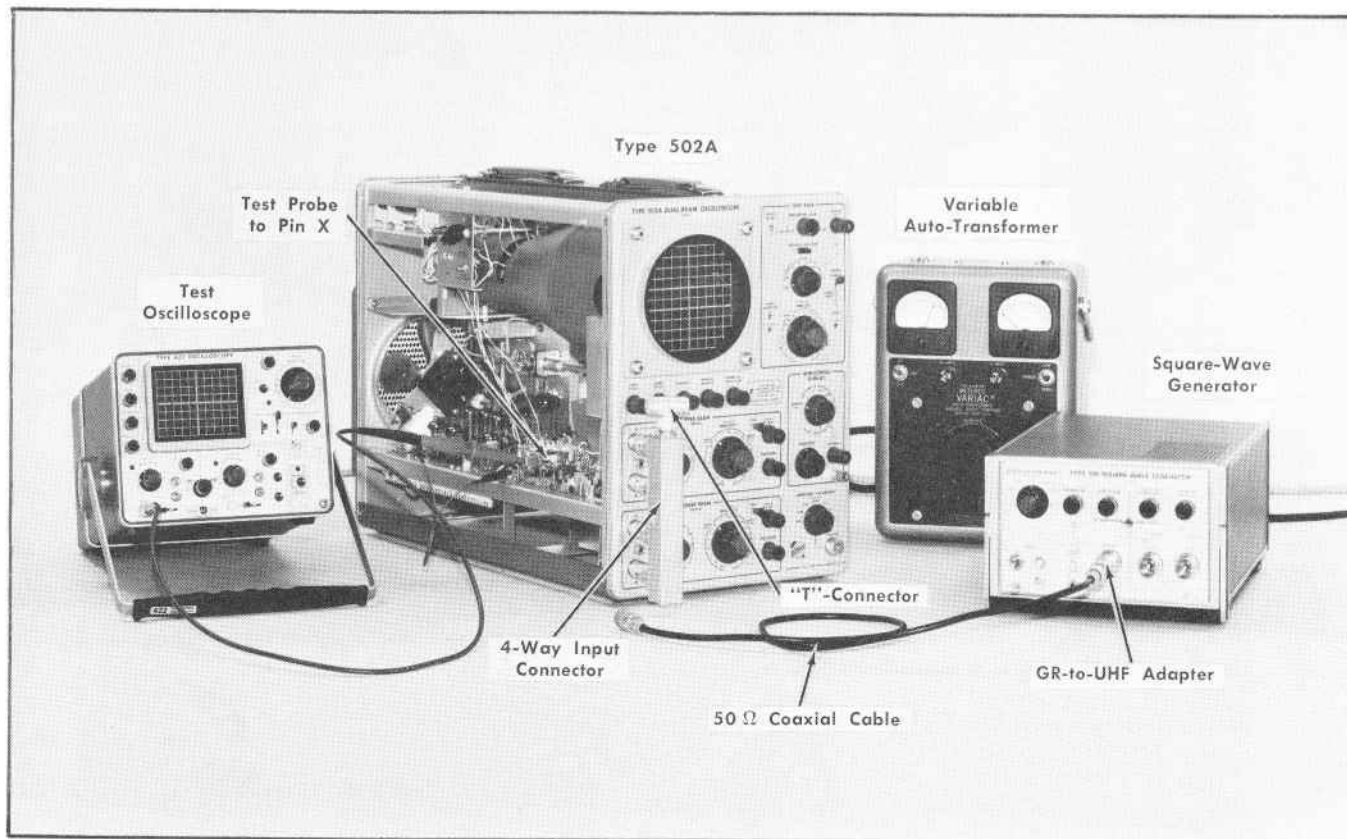

Fig. 6-29. Test equipment setup for adjusting trigger output (step 31).
a. Set up the equipment as shown in Fig. 6-29. (Do not connect the square-wave signal to the Type 502A until step (e) below.)